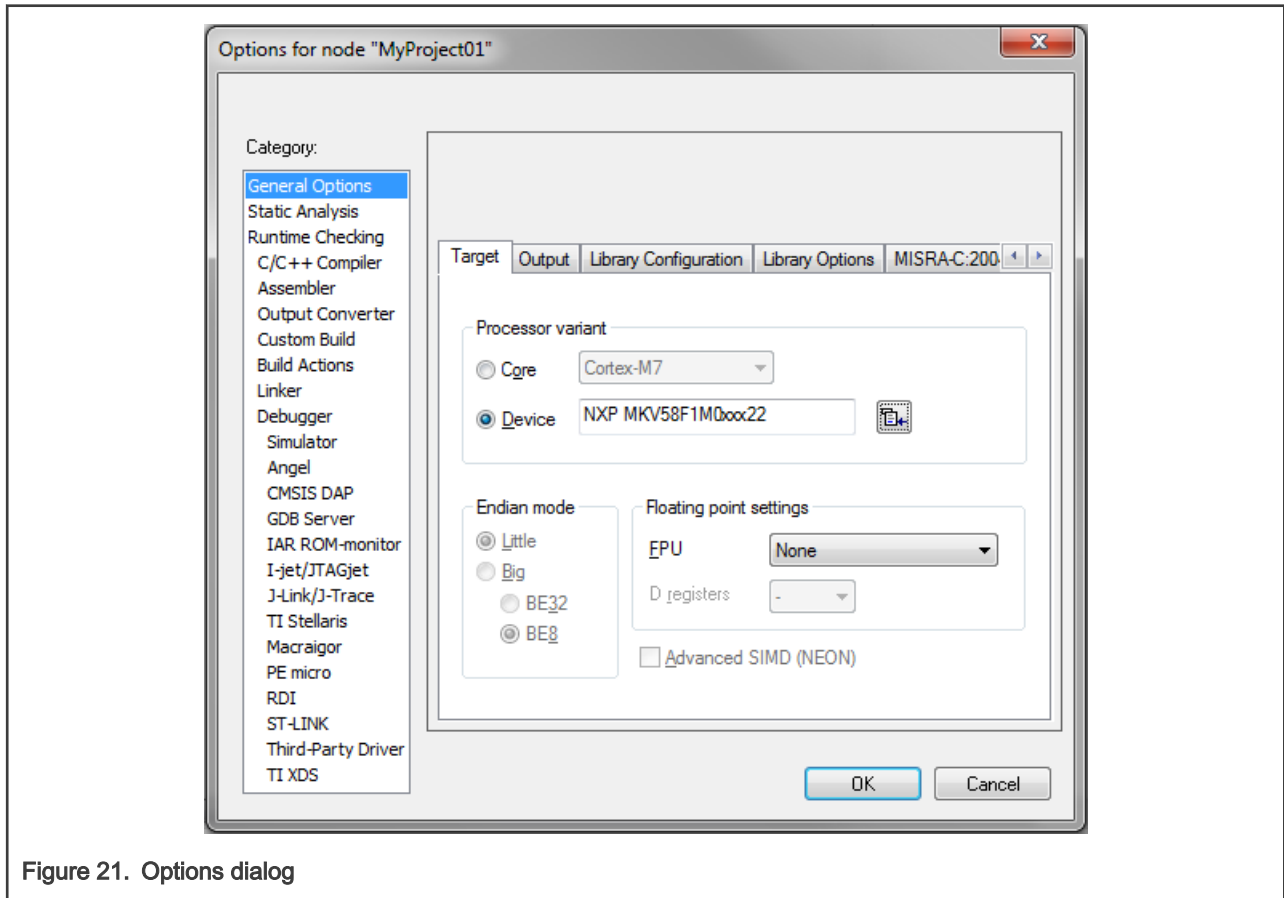

Figure 21. Options dialog
- In the Target tab, select the Device option, and click the button next to the dialog to select the MCU. In this example, select NXP > KV5x > NXP MKV58F1M0xxx22. Select None in the FPU option. Click OK. See Figure 21.